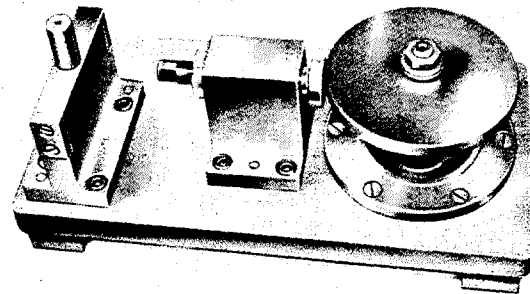

Fig. H 3/41
42. Exchange the measuring discs on tool 191 589 02 23 for a bracket with gauge holder (191 589 03 23) and a dial gauge. Clamp the dial gauge so in place that it is preset to 1 mm (0.0394"). Now locate the highest point of the adjusting screw face with the dial gauge and set the gauge to zero by turning the dial (Fig. H 3/42).